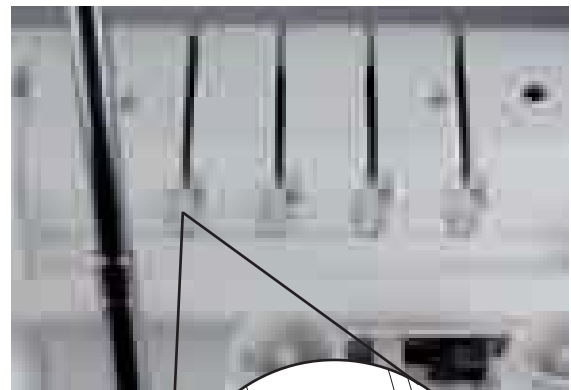

Fig. 20
1. Guide the yarn from back to front through the thread tree **1** (1).
2. Thread the yarn into the thread guide in that you pull the thread down until it slips under the thread guide (2) (Fig. 20).